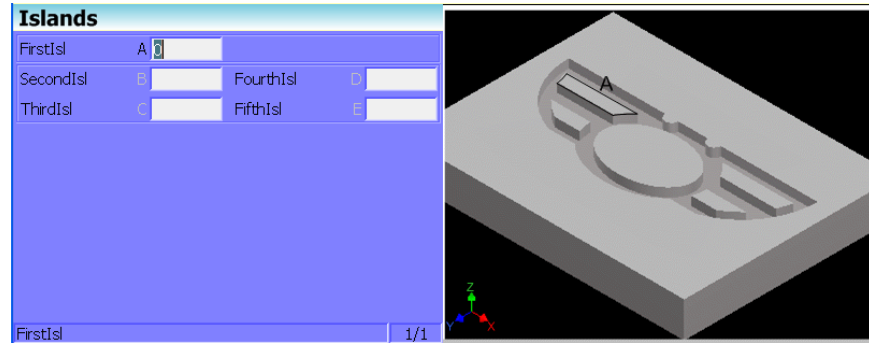

Figure 4-22, Islands Graphic Menu
2. Highlight **Islands** and press **ENTER** to display the Islands Graphic Menu. Refer to Figure 4-22, Islands Graphic Menu.